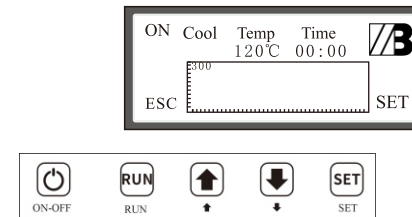

Fig. 13
- ⑤. Press "SET" Button to switch "Heat Preservation" to highlighted state, and press "PAGE DOWN" button to switch to "cooling". Press "SET" Button again to switch "TEMPERATURE" to highlighted state. Press "PAGE UP" button and "PAGE DOWN" button to conduct the setting of "TEMPERATURE" as shown in Fig. 13. The heat preservation setting range shall be lower than the soldering temperature. "TIME" setting is not available under cooling mode and its default value is 00:00.